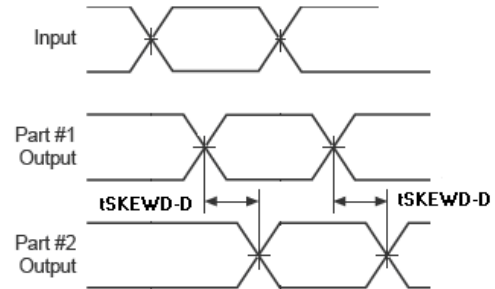

Figure 11. AC Measurement Reference
10. Outputs terminated $100\ \Omega$ across Q_x and \overline{Q}_x , see Figure 4. Measured from differential crosspoints to differential crosspoints, see Figure 11.